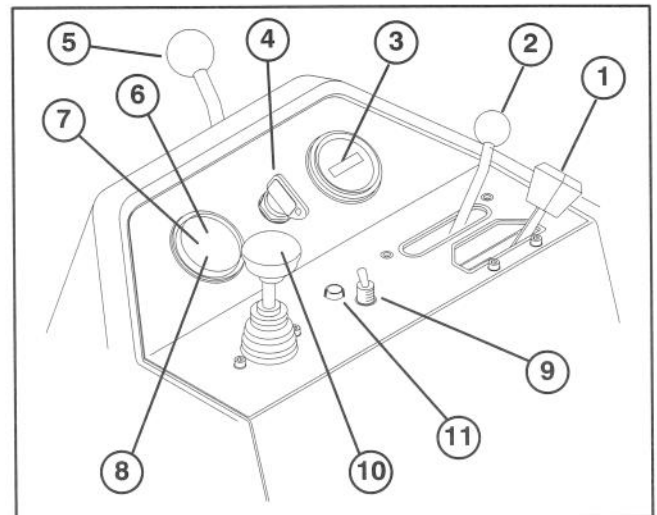

Figure 16
Choke Control (Fig. 16) – When starting a cold engine, move choke control forward. After engine starts regulate choke to keep engine running smoothly. As soon as possible, move choke rearward.
Functional Control Lever (Fig.16) – Provides two (2) traction selections, plus a “NEUTRAL” position. It is permissible to shift from mow to transport or transport to mow (not to neutral) while the Greensmaster 3200 is in motion. No damage will result.
Hour Meter (Fig.16) – Indicates the total hours of machine operation. The hour meter starts to function whenever the key switch is rotated to “ON”.
Ignition Switch (Fig. 16) – Insert key into switch, turn clockwise as far as possible to “START” position to start engine. Release key as soon as engine starts; key will move to “ON” position. Turn key counter-clockwise to “OFF” position to stop engine.
Steering Arm Locking Lever (Fig.16) – Rotate lever rearward to loosen adjustment, raise or lower steering arm for operator comfort, then, rotate lever forward to tighten adjustment.
Water Temperature Light (Fig. 16) — Light glows and engine automatically shuts-down when engine coolant temperature gets too high.
High Temperature Override Button (Fig. 16) —If engine kills due to an over heat condition, press override button in and hold until machine can be moved to a safe location and allowed to cool down.
Two Speed Transport Switch (Fig. 16) – When switch is moved forward to “ON” position, engine will run at maximum engine speed (2800 rpm). When moved rearward to “OFF” position, engine will runs at a slower engine speed (2300 rpm) for quieter transport operation.
Battery Warning Light (Fig. 16) – Light glows if battery charge is low.
Oil Pressure Light (Fig. 16) — Light glows if engine oil pressure drops below a safe level.
Raise / Lower – Mow Control (Fig 16) – Moving control forward, during operation, lowers the cutting units and starts the reels. Pull back on control to stop reels and raise cutting units. During operation reels can be stopped by pulling back on control momentarily and releasing. Restart reels by moving control forward.